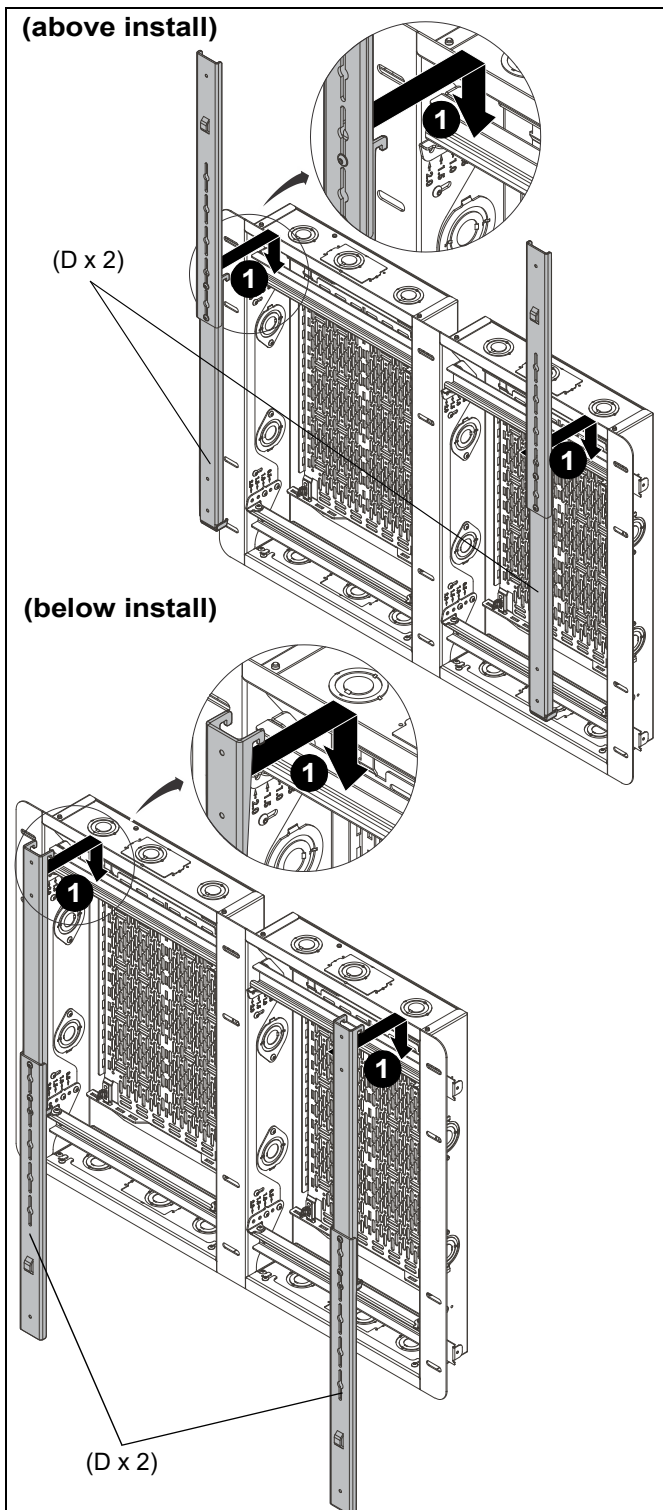

Figure 1
1. Hang macro height-adjustment brackets (D) onto FPIWMKIT upper rail lip on bracket. (See Figure 1)